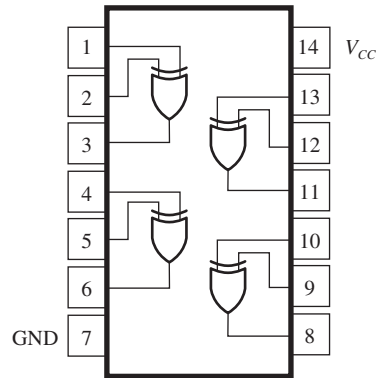

Figure P10
10. The pin configuration of the 74HC86 CMOS quad exclusive-OR IC is given in Figure P10. Make the external connections to the IC to form a 4-bit even-parity generator.